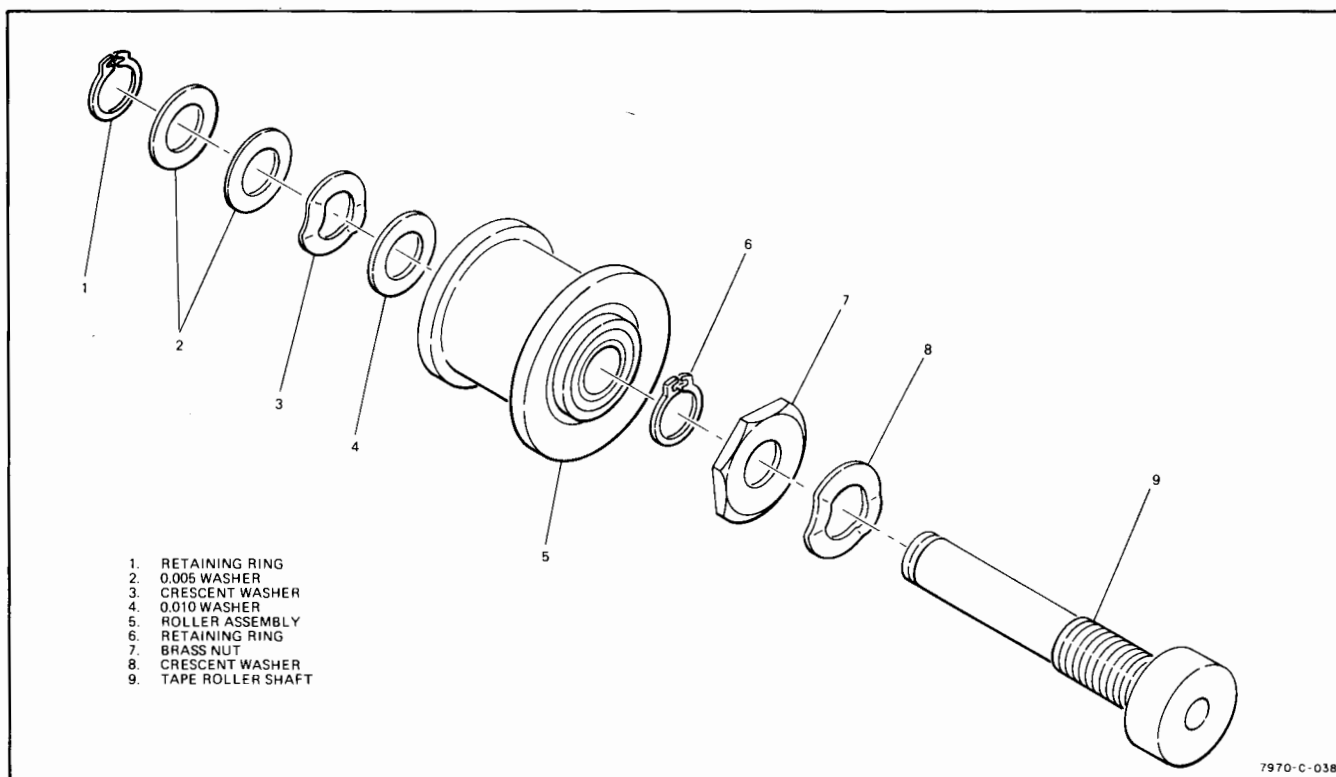

Figure 5-1. Tape Roller and Bearing Assembly, Exploded View
5-10. Tape roller loading is critical. Tape roller loading must be performed whenever the tape roller is dismantled or repaired. The exploded tape roller assembly is illustrated in figure 5-1. To obtain the proper tape roller loading, proceed as follows:
a. Assure that brass nut (figure 5-1, 8) is torqued to 5 inch-pounds.
b. Install assembly components as indicated in figure 5-1. Use Retaining Ring Pliers (Waldes 18-23; Industrial Retaining Ring Corp P100; or equivalent). Avoid distorting retaining ring.
c. Check tape roller bearing assembly (6) end-play. Add/remove flat washers (3 or 2) until end-play is just removed.